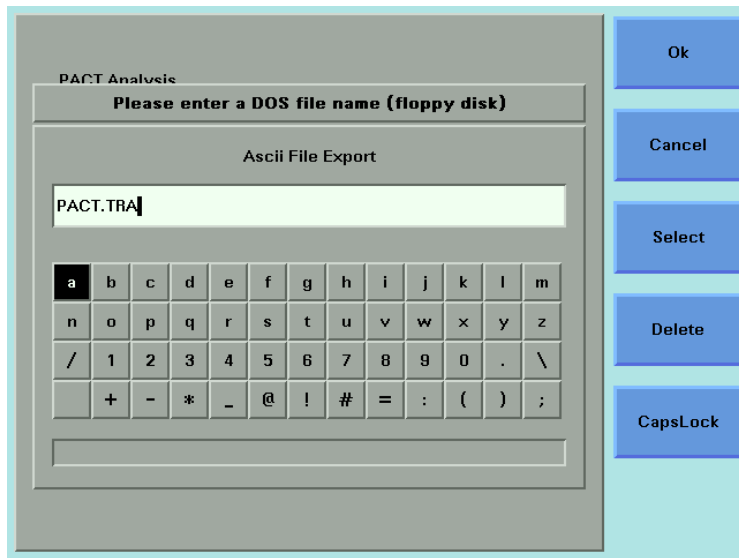

Figure 191 The File Name Editor
- 6 Press *Enter*. The File Name Editor, as shown in Figure 191 on page -310, appears.